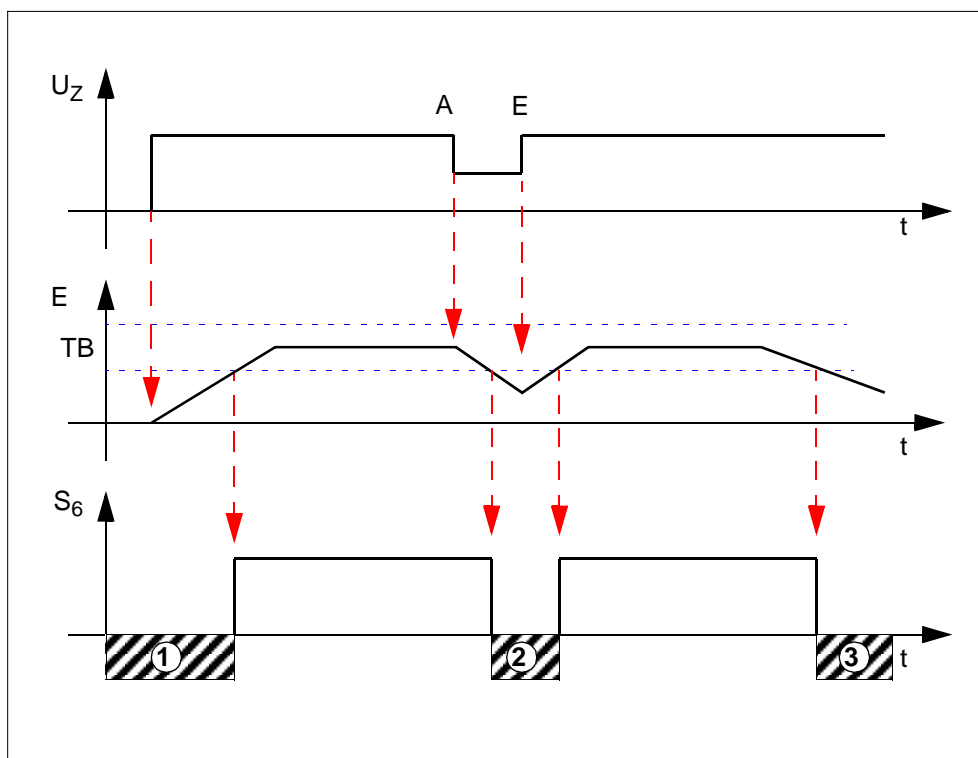

Fig. 15: The monitoring interface signal on terminal "6"
The following illustration shows this in detail (►►Fig. 15).
Power failure ② (►► Fig. 15)
The KCM Capacitor Module is not working properly ③ (►► Fig. 15)